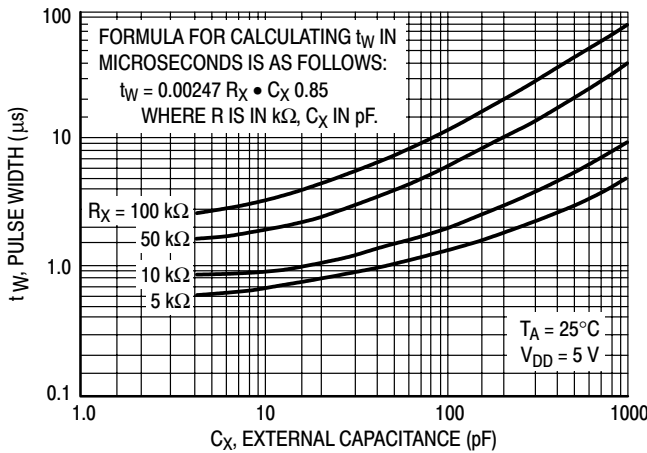

Figure 3. Typical  $C_X$  versus Pulse Width @  $V_{DD} = 5.0 V$
**MONO–IN (Pin 15)** — Used as the timing pin for the on–chip monostable multivibrator. If the Mono–In input is connected to  $V_{SS}$ , the monostable circuit is disabled, and Decode Out is directly connected to the selected Q output. The monostable circuit is enabled if a resistor is connected between Mono–In and  $V_{DD}$ . This resistor and the device's internal capacitance will determine the minimum output pulse widths. With the addition of an external capacitor to  $V_{SS}$ , the pulse width range may be extended. For reliable operation the resistor value should be limited to the range of 5 k $\Omega$  to 100 k $\Omega$  and the capacitor value should be limited to a maximum of 1000 pf. (See figures 3, 4, 5, and 10).